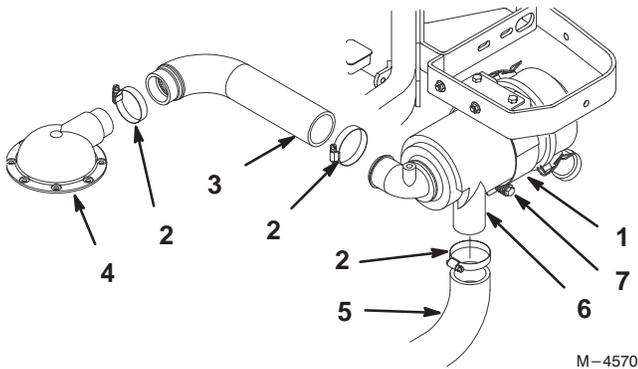

Figure 16
2. Install the adapter hose and air intake hose onto the air cleaner canister and tighten the hose clamps (Fig. 16).
3. Install the adapter hose onto the air intake adapter and tighten the hose clamp (Fig. 16).